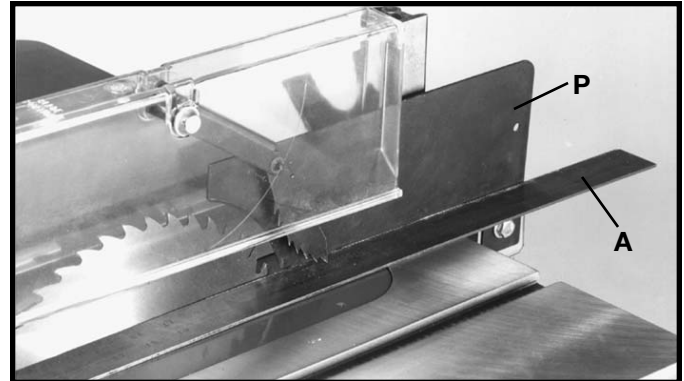
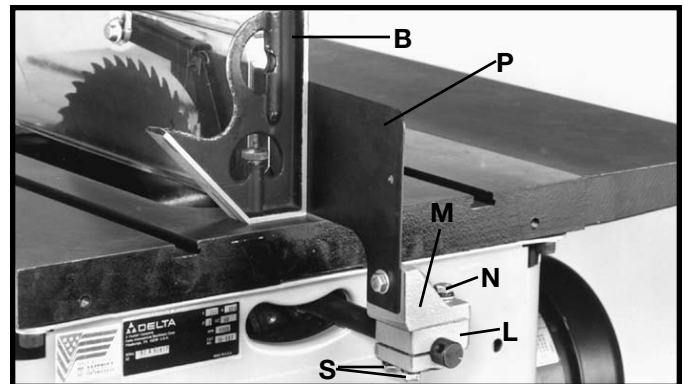

Fig. 23
Fig. 24
12. Using a straight edge (A) Fig. 23, and square (B) Fig. 24, align splitter (P) with the saw blade and table by moving brackets (M) and (L) until the splitter (P) is in perfect alignment with the blade and square with the table. After alignment is made, tighten hex head screw (N), and two screws (S) Fig. 24.